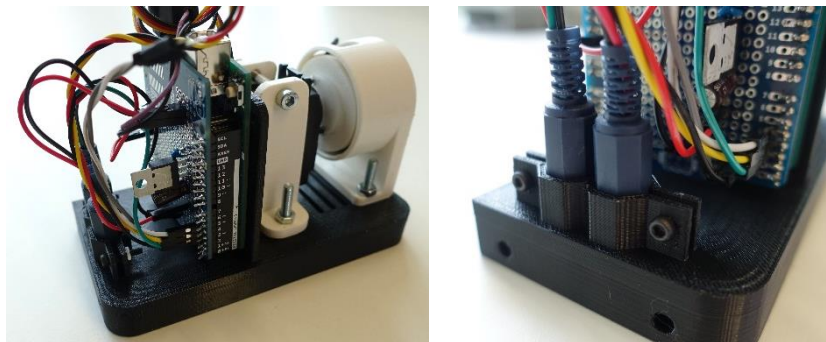

Figure 12: Actuator box assembly without lid (left) with detail on clamping of AUX female connectors (right).
10. Clamp the two AUX stereo connectors female in the hexagonal holder using two M2x10mm screws and nuts (3.06) and make sure they sit very tight in there and do not move if you plug a male connector in or out. Your assembly should now look similar to Figure 12.